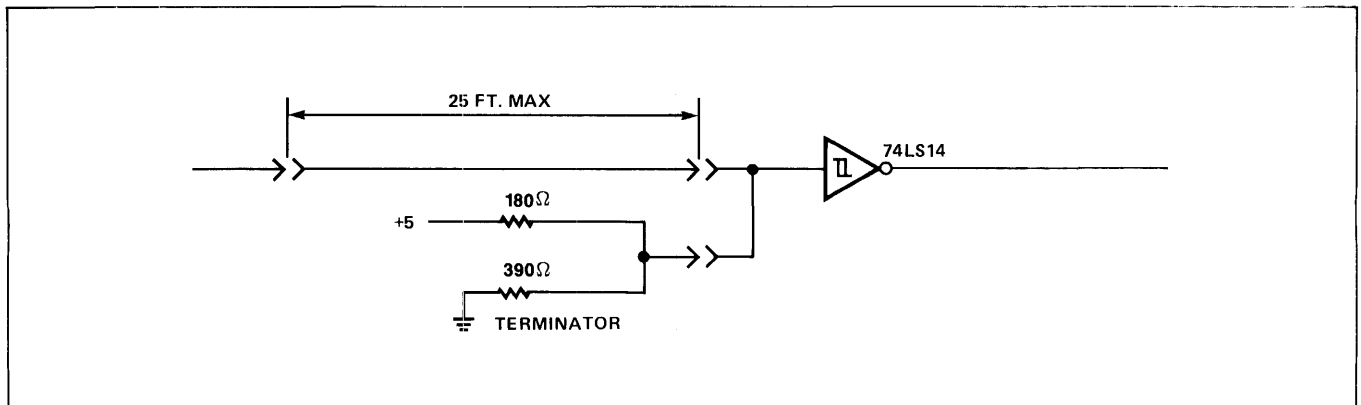

Figure 4-12. Single End Line Receiver
8. - *DRIVE SELECT 1-4*. These low-active signals (decoded) enable drive selection. No reading, writing, register selection, or command response will occur unless the drive is selected. These lines are connected to single-ended receivers, as shown in Figure 4-12. The DC characteristics are listed in Table 4-9. These lines should be terminated at the drive end.
for reading or writing. Head selection decoding is shown in Table 4-13. These lines are connected to single-ended receivers, as shown in Figure 4-12. The DC characteristics are listed in Table 4-9. These lines should be terminated at the drive end.